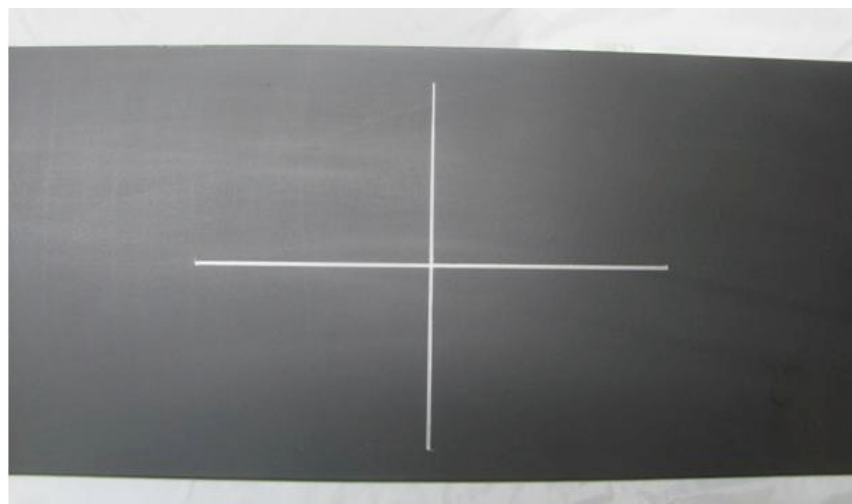

Figure 9: Marking Structural Member for Tiltmeter Installation
2. Locate the centerline of the gaging area in both the longitudinal and transverse directions. First, locate the midpoint and draw two centerlines as shown in Figure 9. The longitudinal centerline should be approximately 8 in (203 mm) long and the transverse centerline should be approximately 6 in (152 mm) long. This will allow the marks to be seen while the tiltmeter is being installed.